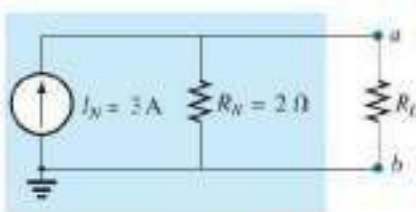
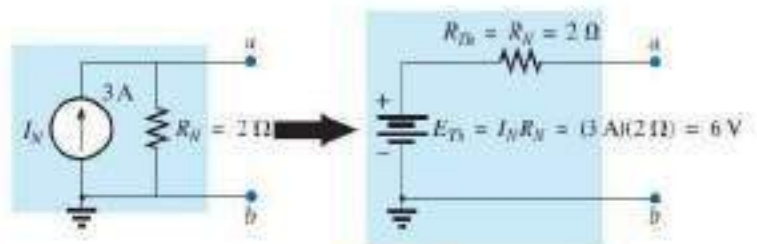

FIG. 9.71
FIG. 9.72
Step 5: See Fig. 9.71. This circuit is the same as the first one considered in the development of Thévenin's theorem. A simple conversion indicates that the Thévenin circuits are, in fact, the same (Fig. 9.72).
Converting the Norton equivalent circuit in Fig. 9.71 to a Thévenin equivalent circuit.